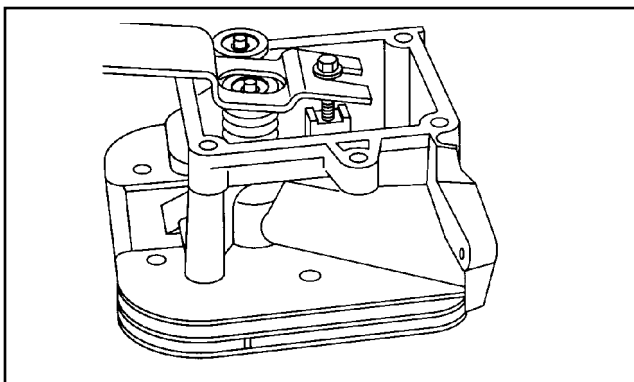

Fig. 21 - Install Valve Springs
3. Install valve springs with valve spring compressor, Tool (Briggs & Stratton P/N 19347), Fig. 21.